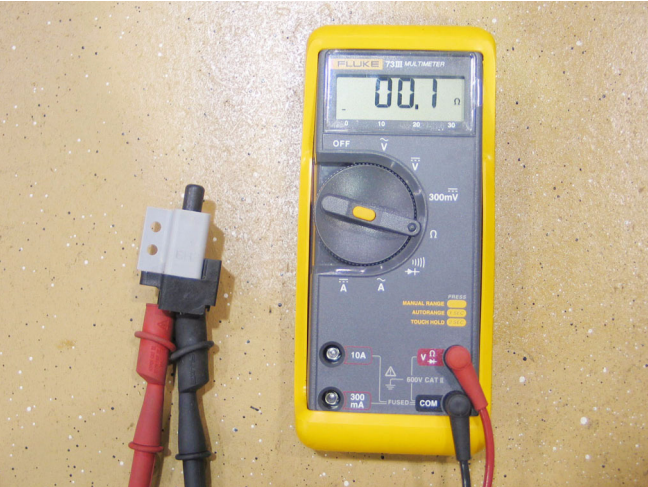

Figure 36.13
36.13. When testing switches on the bench, resistance beyond $.2 \Omega$ indicates a problem. See Figure 36.13.